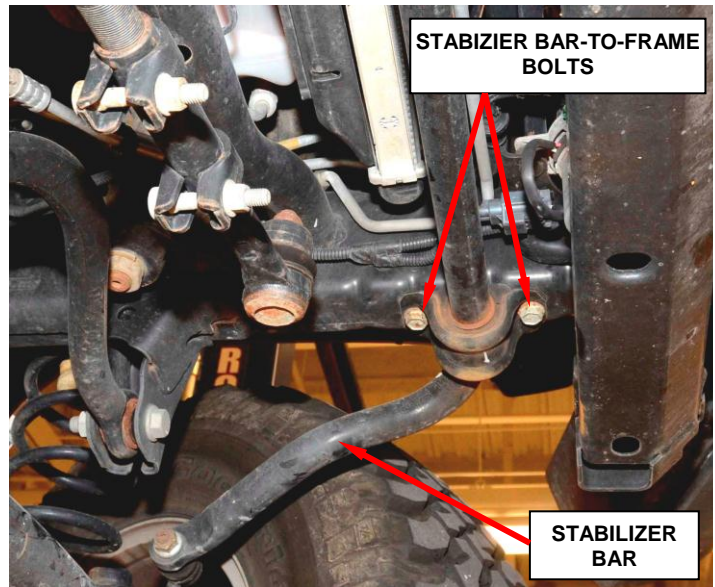

Figure 12 – Stabilizer Bar Bolts (left side shown)
9. Remove and save the four stabilizer bar-to-frame rail bolts and lower the stabilizer bar (Figure 12).